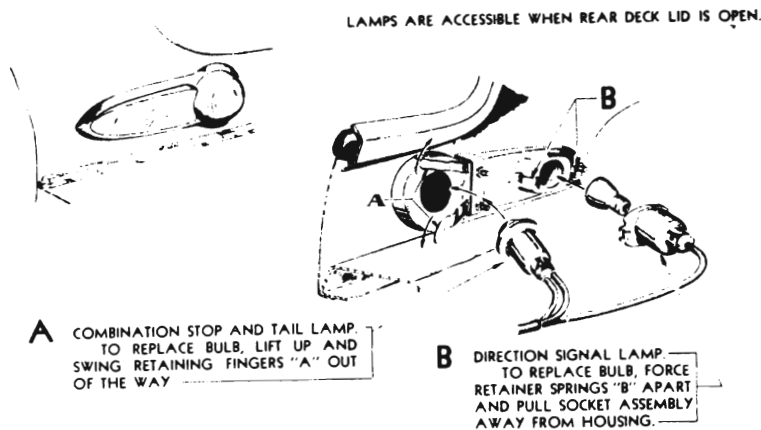

Fig. 12-55. Tail, Stop and Direction Signal Lights—Series 50-70
- To replace tail and stop light bulb on Series 50-70, lift retaining fingers and rotate away from lamp. See Figs. 12-55 and 12-56. Pull out socket and replace bulb. In replacing socket make sure that depression in socket plate enters alignment notch in housing.